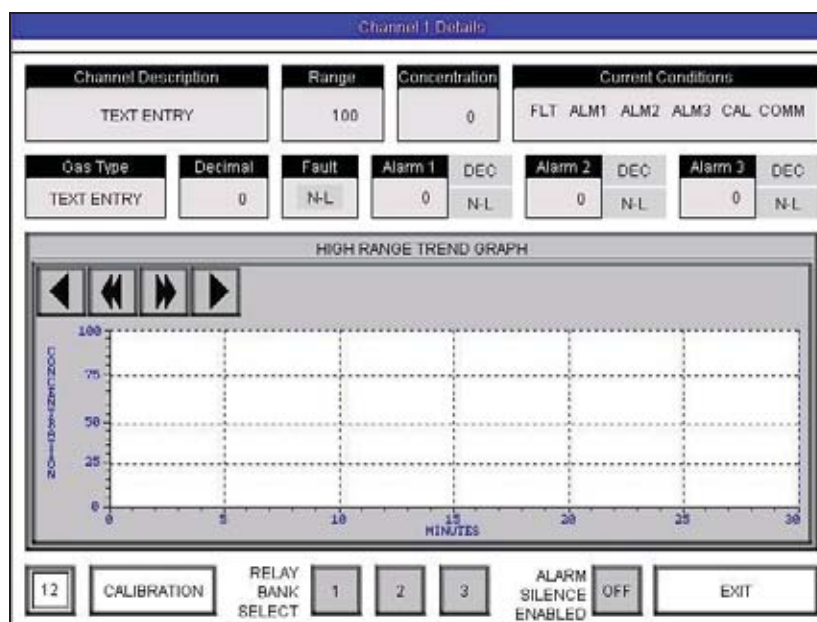

Figure 34 Channel Detail Screen
- 7) Each channel must be set up with the correct parameters for each sensor. Use the wand to select a channel from the “Main Screen”, this will open that channels corresponding “Channel X Details Screen” (Figure 34).
- 6) The "Channel Description", "Gas Type", and the range decimal point must be setup in the Remote Display to match the information used to setup the Main 880. Sensor Range and Alarm information should not be altered at the Remote Display. (This information is transferred over from the Main 880). Use the wand to select a channel from the "Main Screen" and open that channel's corresponding "Channel Detail Screen" (Figure 34).